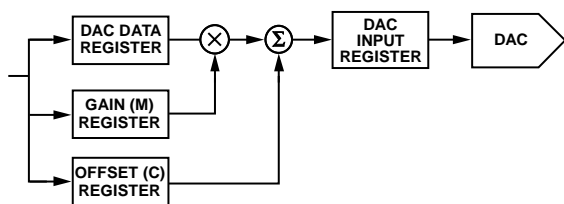

Figure 52. Digital Offset and Gain Control
Each DAC channel has a gain (M) register and an offset (C) register, which allow trimming out of the gain and offset errors of the entire signal chain. Data from the DAC data register is operated on by a digital multiplier and adder controlled by the contents of the gain and offset registers; the calibrated DAC data is then stored in the DAC input register (see Figure 52).
Although Figure 52 indicates a multiplier and adder for each channel, the device has only one multiplier and one adder, which are shared by all four channels. This design has implications for the update speed when several channels are updated at once (see Table 3).